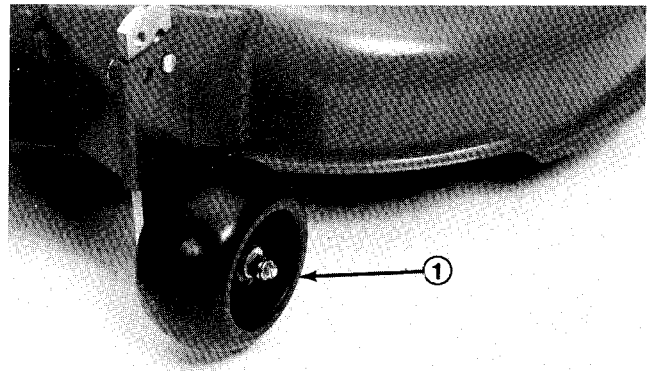

Figure 6
2. Mount cutting unit to carrier frame with four (4) clevis pins and hair pin cotters (Fig. 6).
With cutting deck on a level surface and height-of-cut in desired position, gage wheel is to be positioned so it is approximately 1/4–3/8 in. above the ground (Fig. 6).